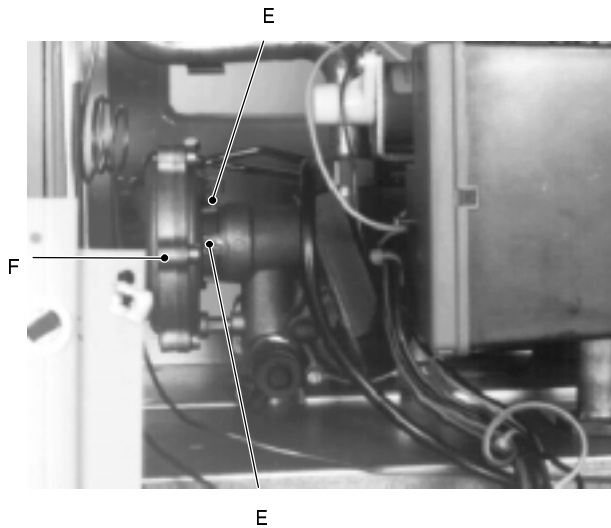

fig. 27
- 3 Loosen the screws *E* and remove the hydraulic actuator *F* (fig. 27).